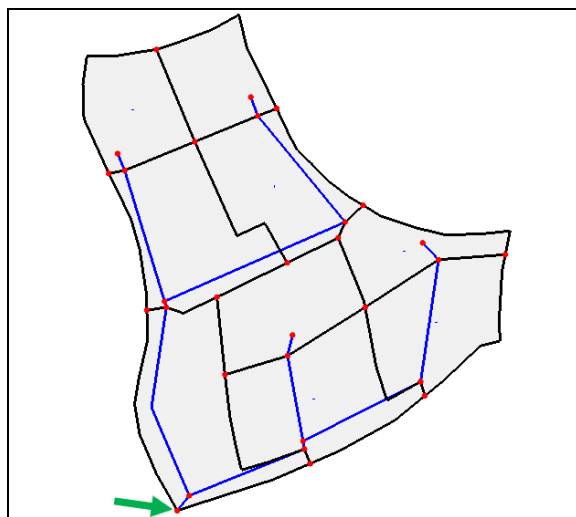

Figure 3 Drainage basins and streams for the subdivision
This should simplify the display (Figure 3).
16. Using the **Select Feature Point/Node**  tool, double-click on the node indicated by the arrow in Figure 3 to bring up the *Drainage Feature Point Type* dialog.